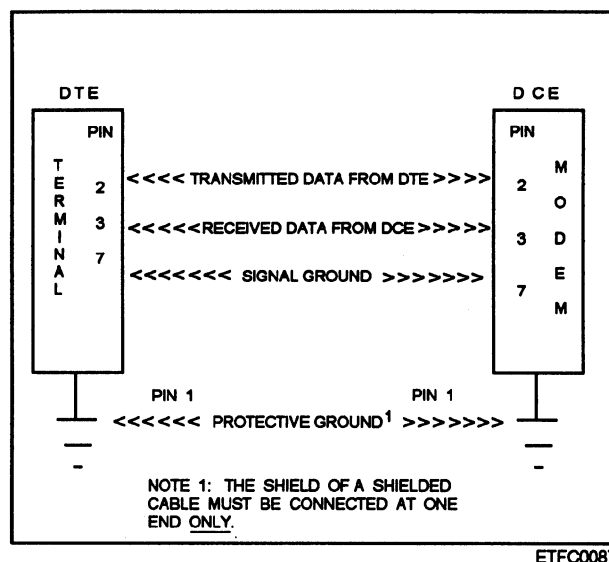

Figure 7-26.—A typical DTE to DCE connection showing the minimum wiring required under the RS-232 interface standard.
**Pin 3, Received Data** —Pins 2 and 3 are the pins of most importance; for if it weren't for the data that passes through them, the remaining pins would not be needed. Data is normally transmitted in the following manner. The DTE **transmits** data on pin 2 and **receives** data from the DCE on pin 3 as described in figure 7-25 and shown in figure 7-26. Figure 7-26 illustrates the absolute minimum wiring required under the RS-232 interface for normal DTE-DCE communication.